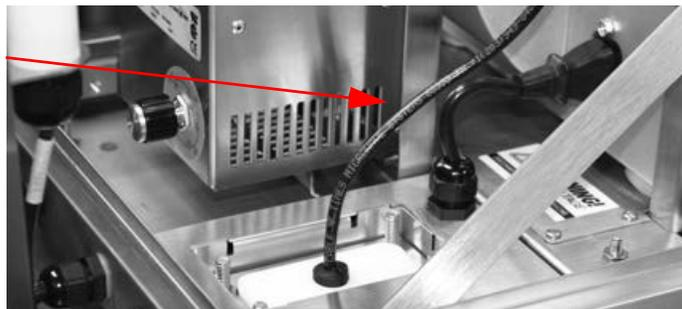

Figure 5-30. Insert Split Grommet Onto the Split Seal Plates
15. Wrap a small hole grommet that is included with the printer around the cable with the small end of the grommet pointing downwards. Orient the grommet split to a position that is 90 degrees to the split in the split seal insert. Press the grommet into the tapered hole in the split seal insert. At this time, position the cable as shown below. See Figure 5-30.